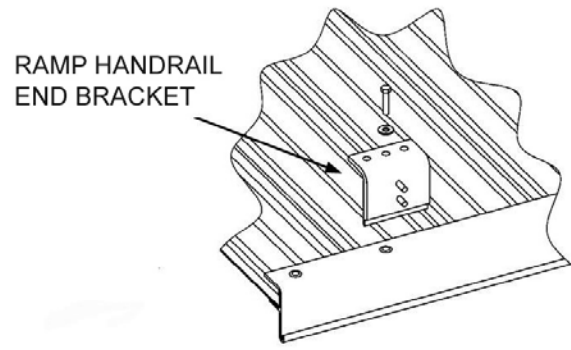

FIG. 15a
- a. For 4', 6', and 8' ramps, use one at each outside corner of the ramp section using one 5/16" x 1 1/2" bolt & washer into the threaded insert second from the end of the ramp (FIG. 15a).